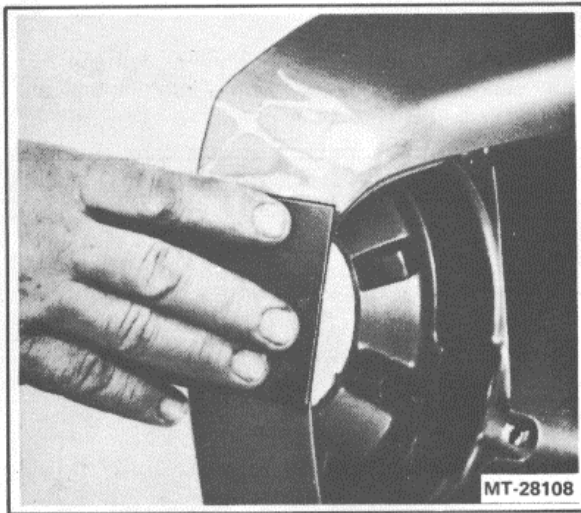

Figure 9. - Surface Preparation
2. Remove flaky edges and feather the painted surface back about 1/2 inch beyond the damaged area by hand-sanding or power-sanding with 360 grit sandpaper (Figure 9).